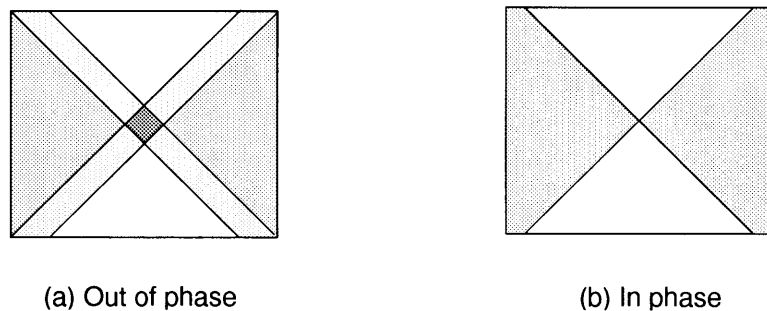

Fig.5-3 Pilot Phase Checking
- ⑦ Make the following settings of the KSG3500A.
Make sure that the oscilloscope displays the waveform shown in Fig.5-3(b). If it displays the waveform shown in Fig.5-3(a), the waveform is still out of phase. Make adjustment in ⑥ again.